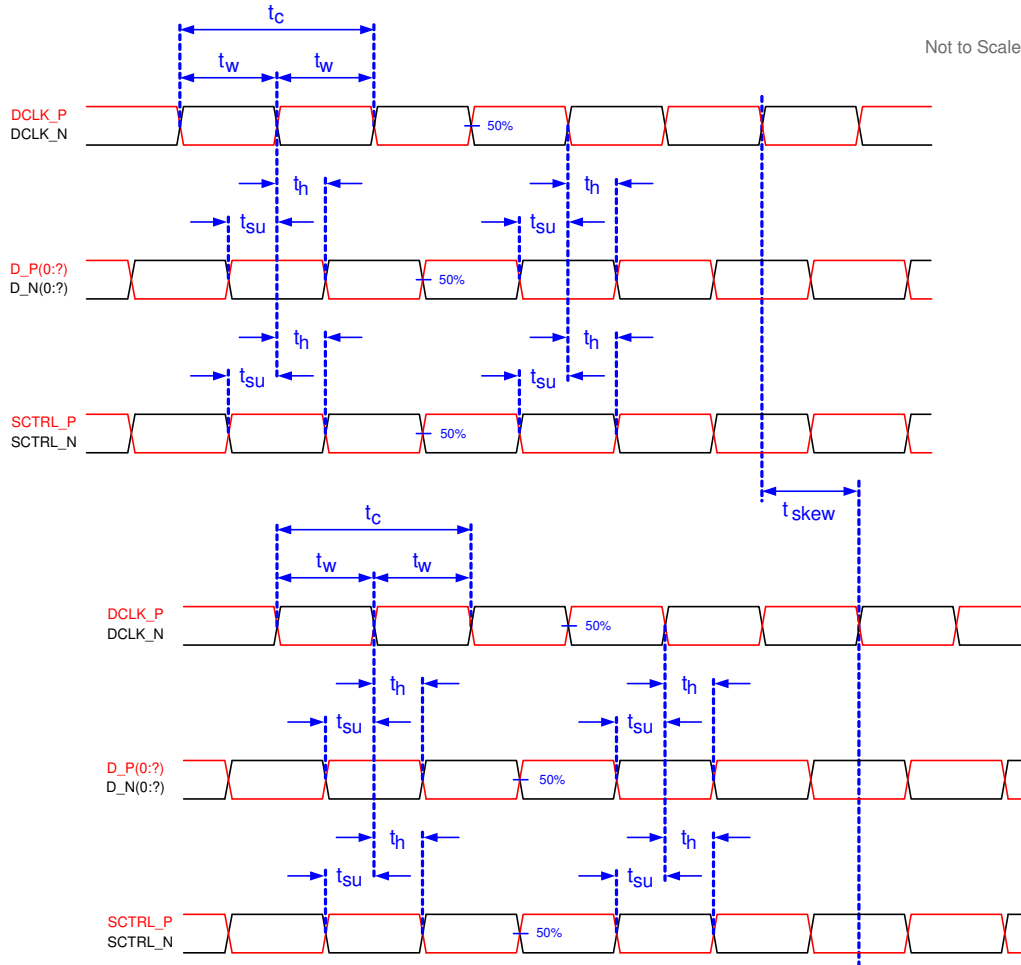

図 6-6. Timing Requirements
- (7) See LVDS Timing Requirements in セクション 6.8 and 図 6-6.
(1) See 図 6-6 for timing requirements for LVDS.
(2) Channel A (Bus A) includes the following LVDS pairs: DCLK_AN and DCLK_AP, SCTRL_AN and SCTRL_AP, D_AN(15:0) and D_AP(15:0).
(3) Channel B (Bus B) includes the following LVDS pairs: DCLK_BN and DCLK_BP, SCTRL_BN and SCTRL_BP, D_BN(15:0) and D_BP(15:0).